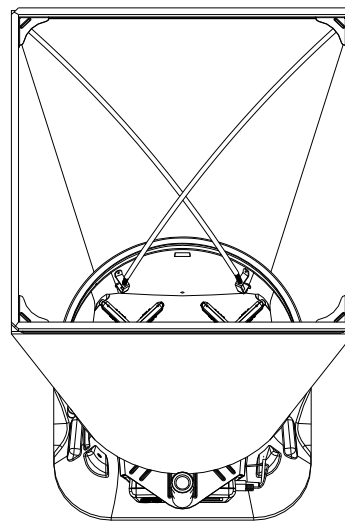

Figure 1
3. Grasp the support pole. Bend the pole slightly to insert the top end of the pole into the support pole cup located in the opposite corner of the fabric frame. The poles are connected to the frame corners in a crisscross fashion as shown in Figure 1.